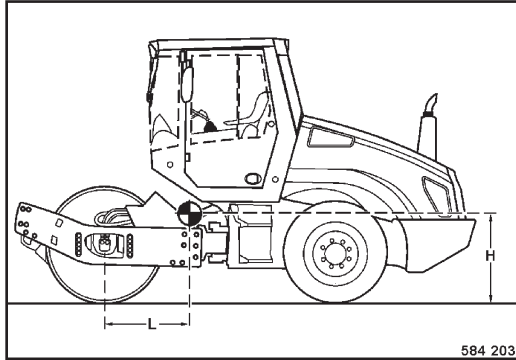

Fig. 79
- Position of centre of gravity (Fig. 79).